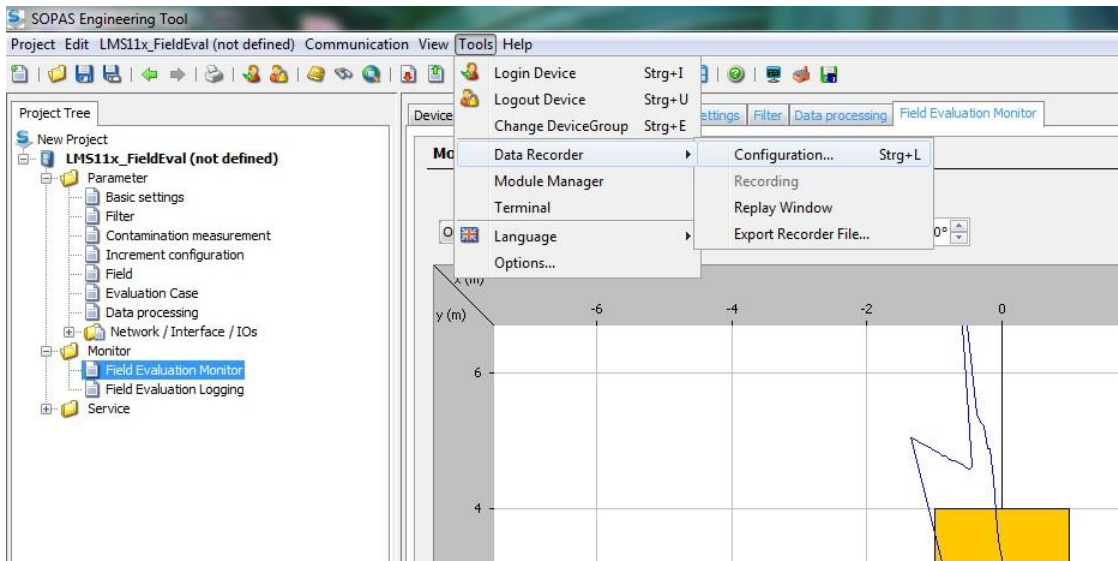

Fig. 10.
9. Data recorder settings. Path: Tools/Data Recorder/Configuration. Fig.10.